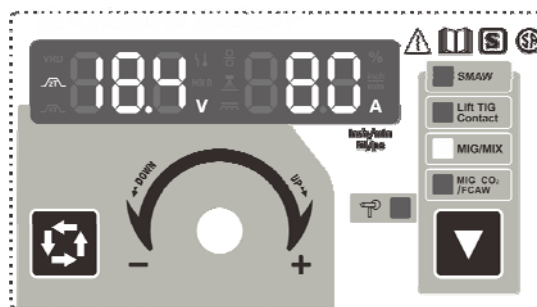

Fig.7 The Status of Perform Welding
⑤ The panel would display these data when **restarting** the machine next time if the parameters keep unchanged.
⑥ The panel displays as Fig.7 when **performing** welding, the welding voltage is 18.4V, and the current is 80A.